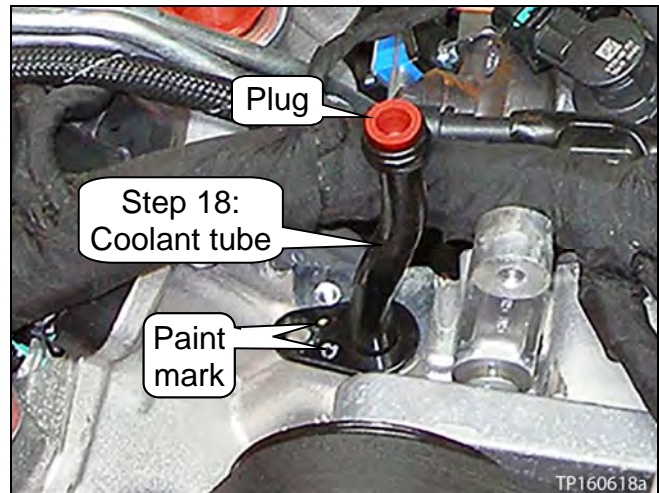

Figure 74
18. Remove the plug, and then remove the EGR bypass valve coolant tube (see Figure 74).
NOTE: Make sure the paint mark(s) are facing upward as shown in Figure 74 once the intake manifold is installed.